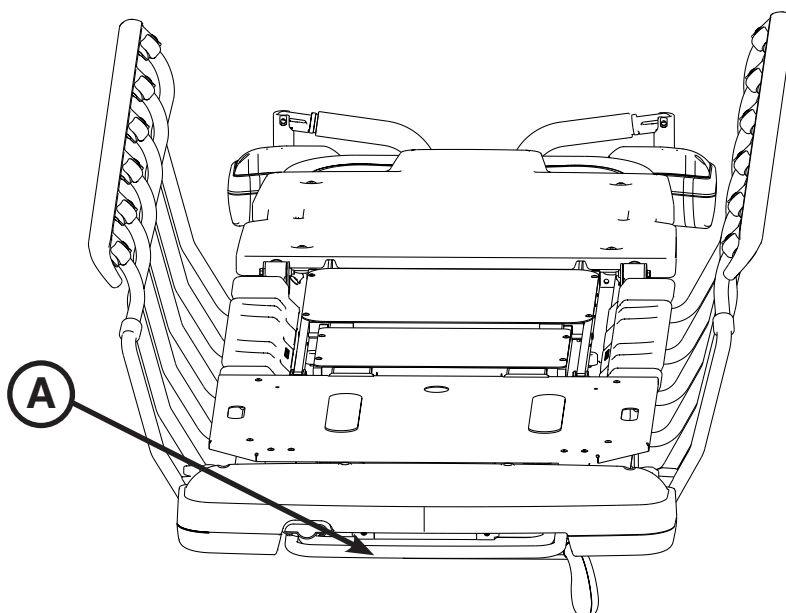

Figure 17: Pump Rack
The pump rack (A) can be used for the storage and transportation of stretcher equipment as shown in Figure 17.